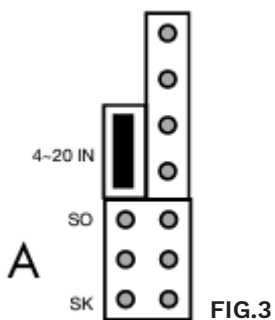

FIG.3
1. Insert J8 jumper to receive signal from external 4~20mA source (Fig.3)